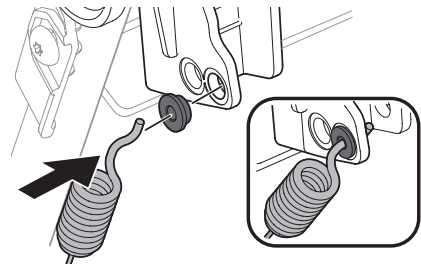

Figure 41
4. Replace bushing in the lower hole and reattach the cable through the bushing and lower hole in the handle (Figure 41).